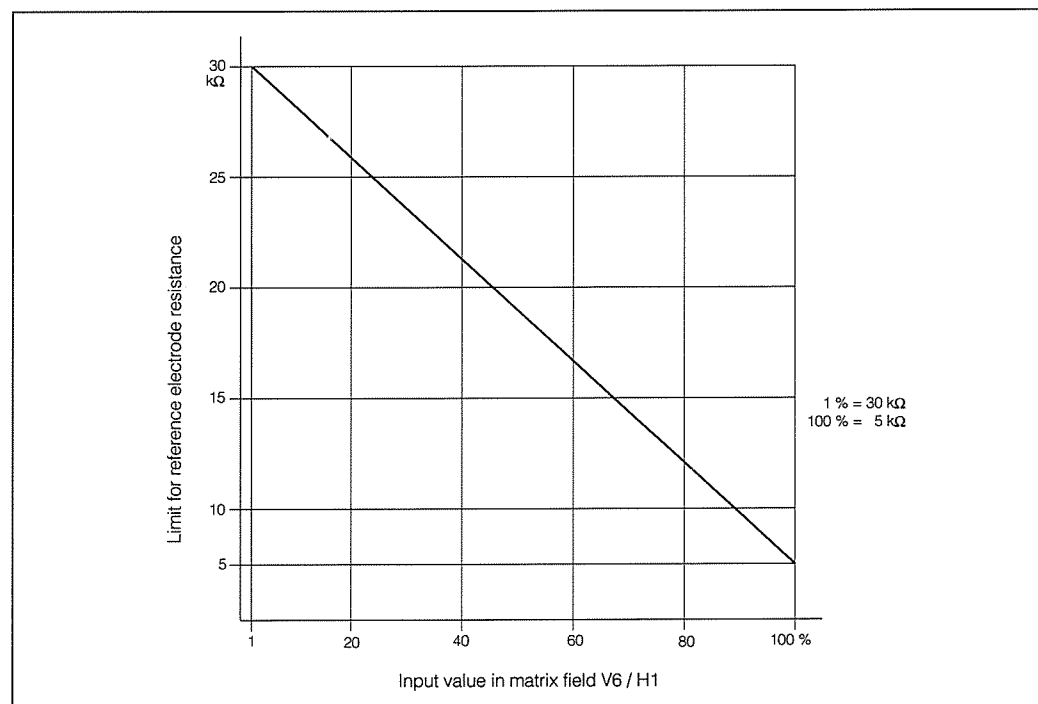

Fig. 6.2: Adjustment range of alarm limit for reference system
- the reference electrode for increased resistance on the diaphragm (see fig. 6.2) if an alarm limit  $\geq 1$  % has been defined in matrix field V6 / H1. If an error is detected, the fault signalling contact is activated and error E 17 and warning E 50 are signalled